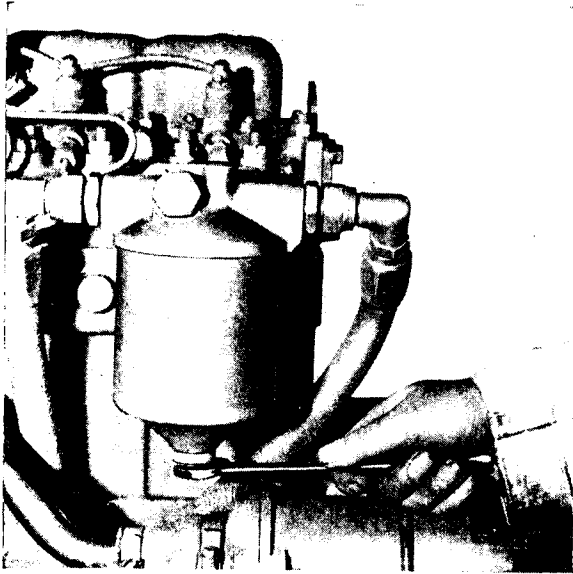

Fig. K.5.
1. Unscrew the bolt at the bottom of the filter bowl (see Fig. K.5).